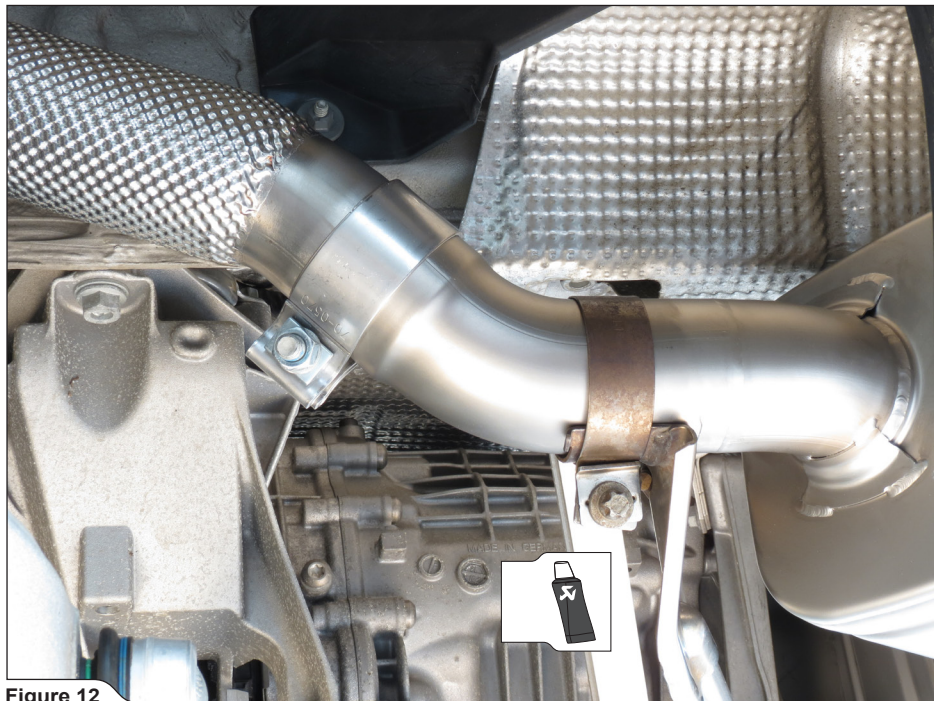

Figure 12
5. Hand tighten the muffler onto the brackets, using stock clamps (Figure 12).